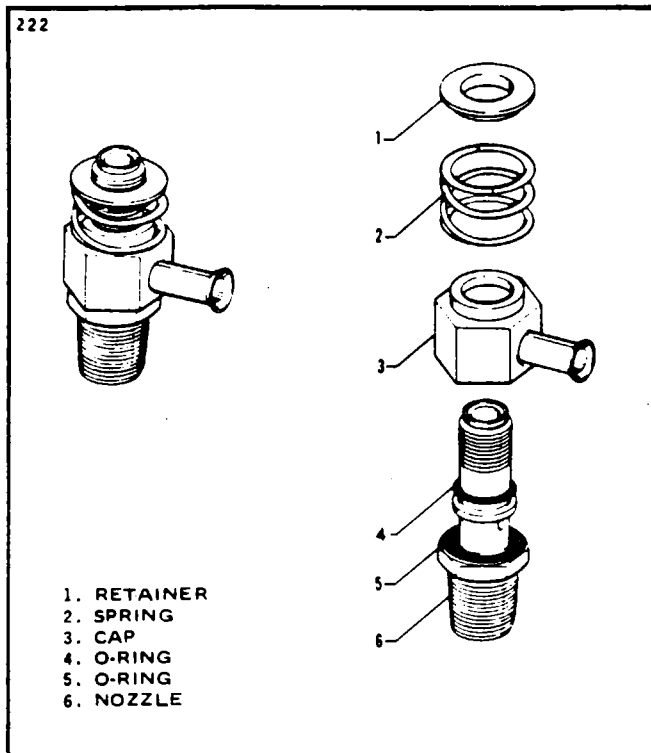

Figure 8-11. Fuel Air Bleed Nozzle
- c. Ascertain that the O-rings are properly installed on the nozzle stem and install the nozzle shroud. (Refer to Figure 8-11.)